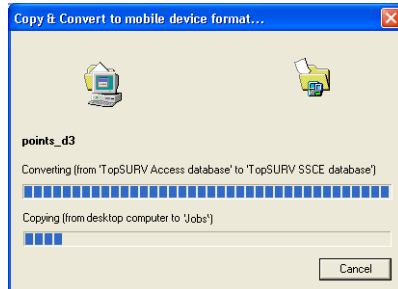

Figure 2-44. Export and Conversion Progress
4. In the process of sending the file(s) from the computer to the TPS Controller, the **Copy & Convert Progress** window displays (Figure 2-44) the export and conversion progress.